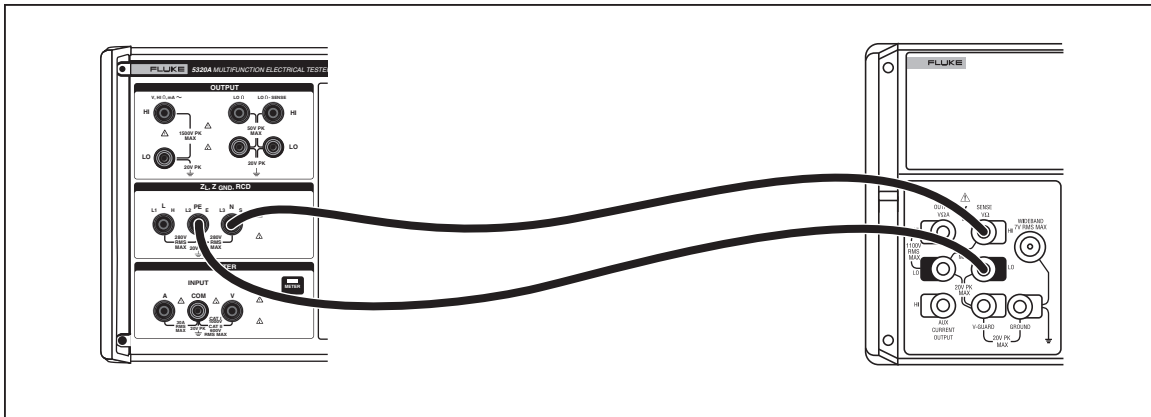

Figure 3-18. RCD Trip Current Calibration Connections
1. Connect the Fluke 5520A to the Calibrator's output terminals as shown in Figure 3-18.